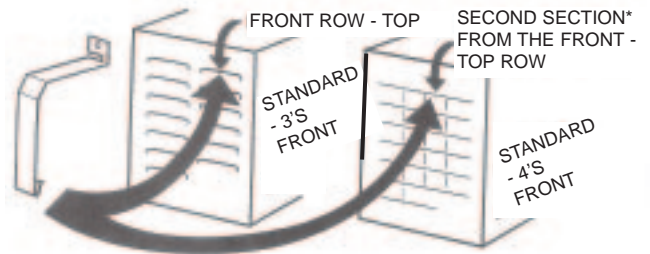

Figure 1
1) **For - 3 Models** (with stainless side panels), hook the bottom end of the strap into the louvre in the top row nearest the dispenser's front on both sides of the dispenser. (See Figure 1)
For - 4 Models (with plastic side panels), hook the bottom end of the strap under the second section* of the top louvre on both sides of the dispenser. (*note the sections under the louvres)(See Figure 1)